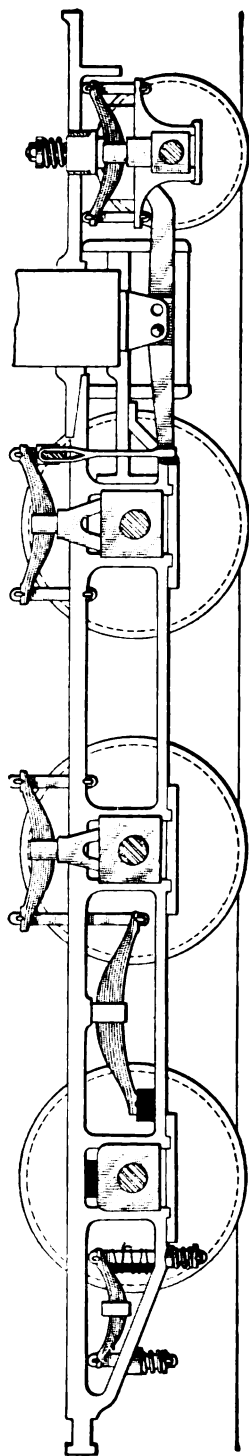

FIG. 35.
**72.** In the event of an intermediate equalizer on a mogul engine breaking, the spring rigging being similar to that shown in Fig. 35, remove, if possible, the broken piece of the equalizer. Next, run the main driver up on a wedge, so as to raise the frame above the rear driving box, and thus permit the insertion of an iron block between the top of the box and the frame; then pry up the back end of the spring that is between the top and bottom rails of the frame and place a block between the back end of the spring and the lower rail of the frame; this will make the rear driver rigid on that side, but it will permit of the use of the other springs. Sometimes it is difficult, or even impossible, to remove the equalizer so as to permit of a block being placed on the rear box below the frame. In this event, simply block up the rear end of the spring, as already explained, and allow the main wheel to carry the overhanging weight. If the engine settles badly on this account, it may be necessary to block between the main driving box and the frame. Block the rear driving spring as shown in the figure.